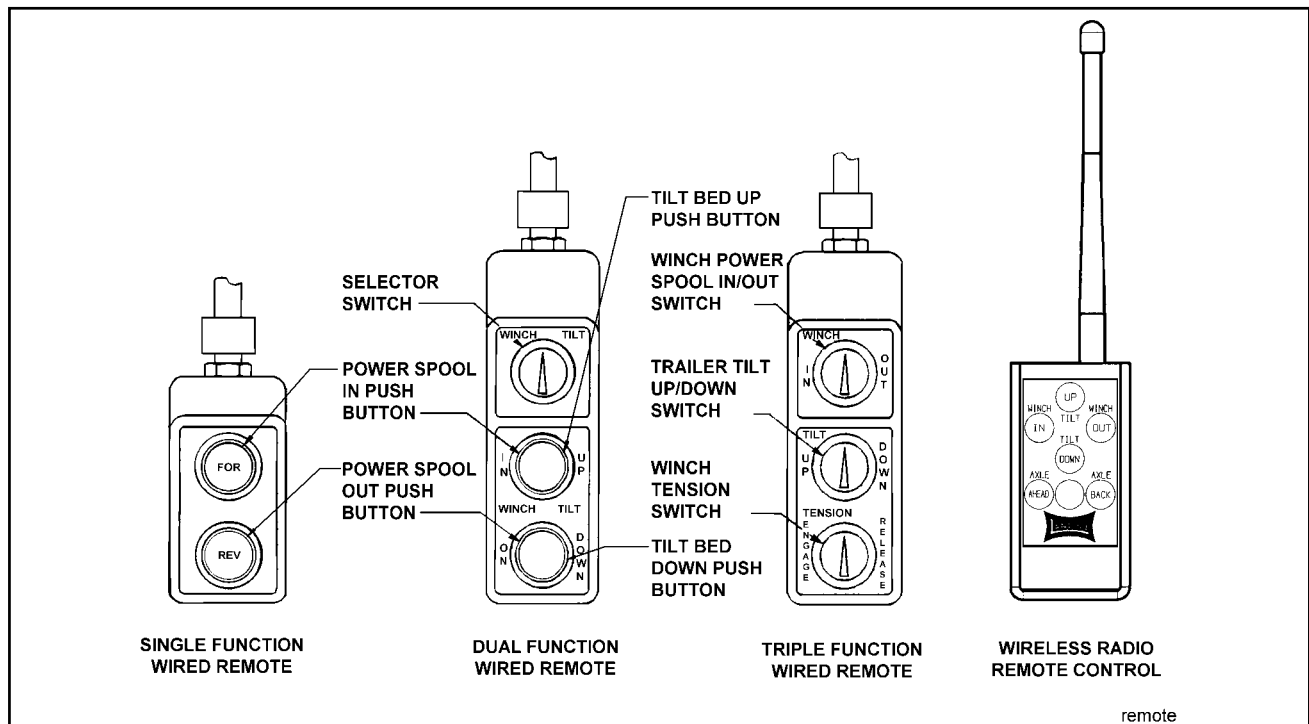

Figure 3-13 Examples of Remote Control Options
**3-21.2** A wireless radio remote control is also available in triple function (See Figure 3-13).